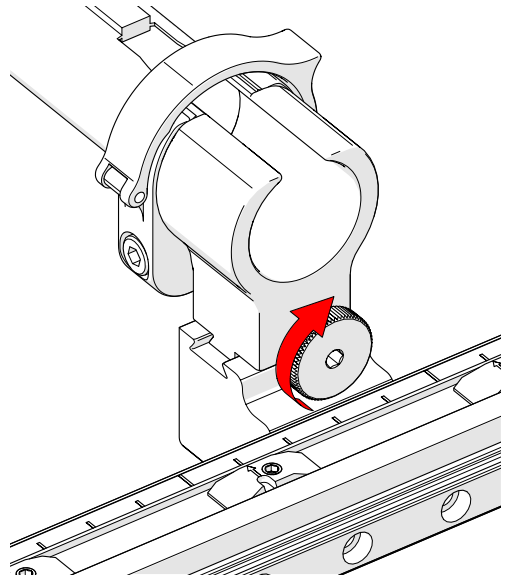

Fig. 64 - Tighten knob
2. Once centred on the dovetail link, tighten the cable management's dovetail mount knob (Fig. 64).